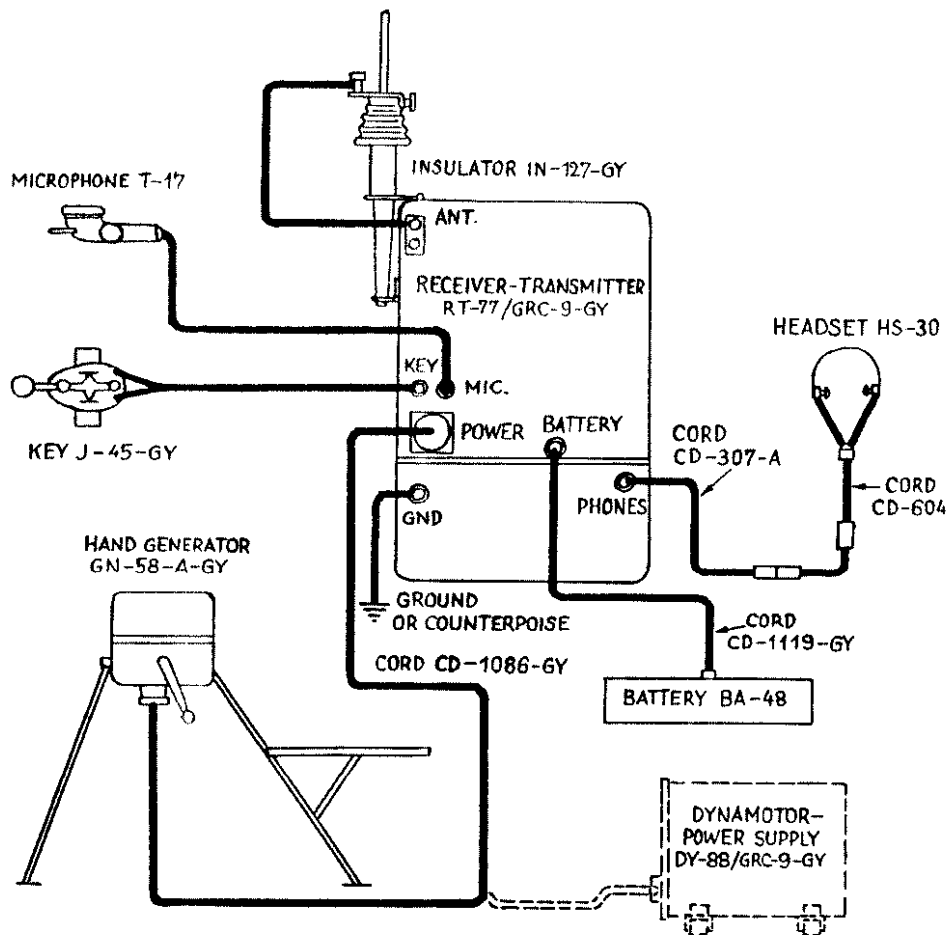

Figure 42. Radio set AN/GRC-9-GY, cording diagram.
- (4) Connect the remaining plug of the cable to the jack on the back of the transmitter chassis and lower the transmitter gently into the case.
- (5) Fasten the clamps on the side of the case to the transmitter panel.
b. EXTERNAL CONNECTIONS. Connect all operating components of Radio Set AN/GRC-9-GY in accordance with the cording diagram shown in figure 42 and the illustration in figure 43. Use the cords supplied with the radio set as follows:
- (1) Install Cord CD-1086-GY connecting one end to the POWER receptacle on the radio set and the other end to Generator GN-58-A-GY or Dynamotor-Power Supply DY-88/GRC-9-GY. When